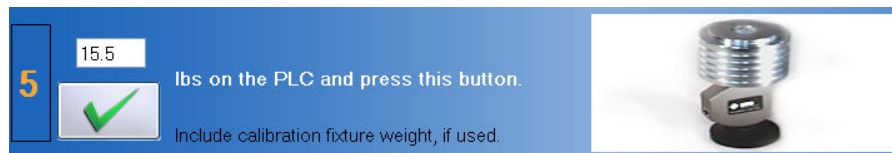

Figure 7-7. Portable Load Cell - Verify the Weight
Step 7. Remove both of the calibration weights and then place the 15 lb calibration weight back on the calibration disk. Type **15.5** in the text field (Figure 7-7).
Step 8. Click on  to verify the weight (Figure 7-7).